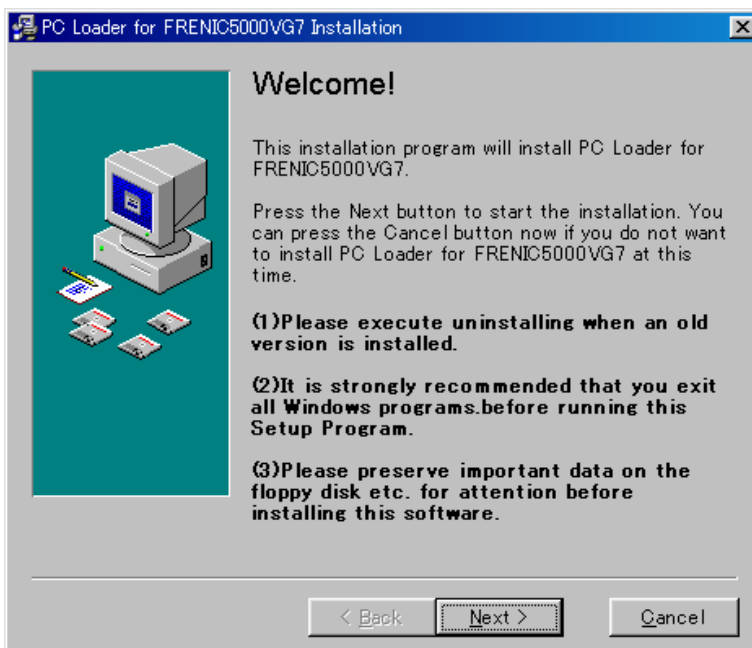

Figure 4 Welcome Message
Before running this installation program, be sure to exit all application programs. (because installation of PC loader requires to restart the computer, which will delete the application data). A welcome message (Figure 4) automatically appears. Read the message carefully and click “Next (N)”.